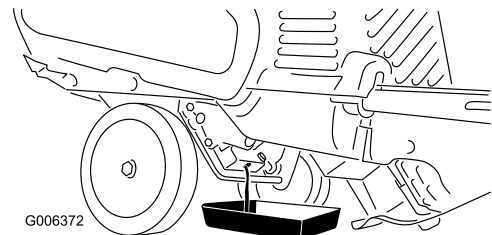

Figure 29
3. Place an oil drain pan under the oil drain plug, remove the oil drain plug, and tip the machine backward and drain the used oil in the oil drain pan (Figure 29).